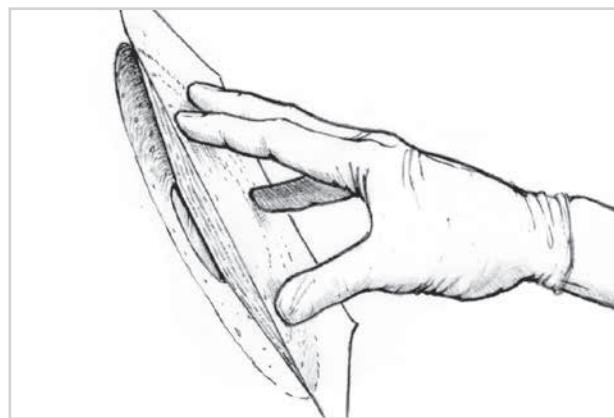

Figure 4-8 Press the wet-out patch, release fabric and plastic into the beveled hole cavity. Squeeze over the patch to remove excess epoxy and trapped air.
5. Lift the wet-out patch, release fabric and plastic from the work surface and press it, plastic side out, into the beveled hole cavity (Figure 4-8). Squeeze over the plastic with firm pressure to remove excess epoxy and trapped air, and smooth the patch. Before the epoxy cures, remove the excess from the surrounding areas with a beveled mixing stick or paper towel.